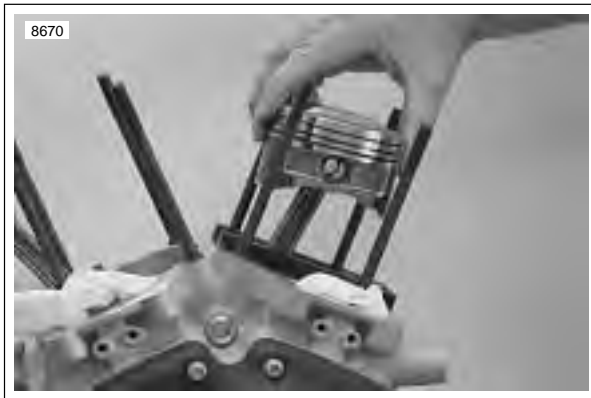

Figure 3-100. Piston Support Plate (Part No. HD-42322)
1. See Figure 3-100. Place PISTON SUPPORT PLATE (Part No. HD-42322) in position as shown.